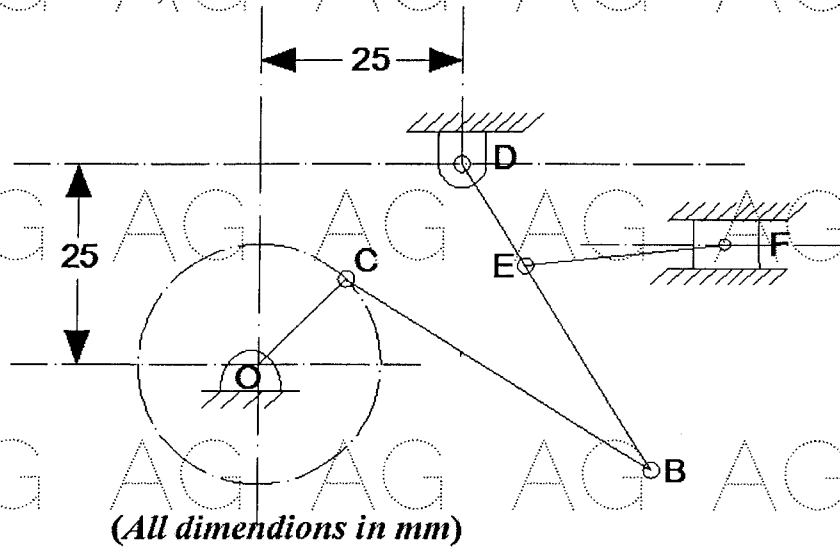

Figure: 1
4. In the mechanism shown in Figure 1, the driving crank OC rotates *ccw* about the fixed point O at a uniform speed of 150 rpm. The lever BD is pivoted about the pin D which is fixed and oscillates about D, A coupler BC connects the points B and C, The die block F, driven by the link EF moves in the horizontal guides. When the crank angle is 45° , find the velocity of F, using the *Instantaneous center method*. OC = DE = 15mm, CB = BD = 45mm, EF = 25 mm. [10]